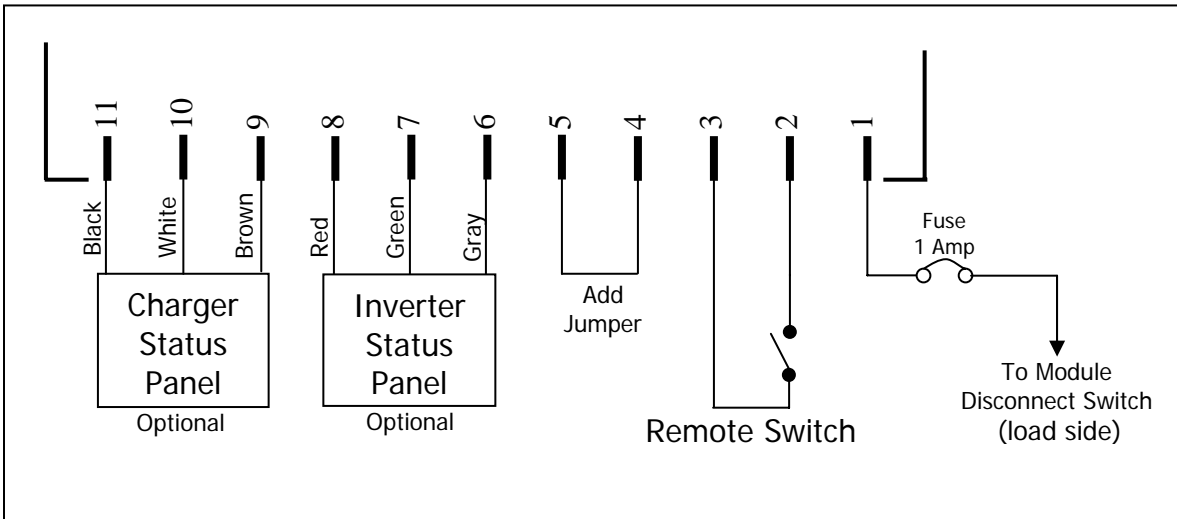
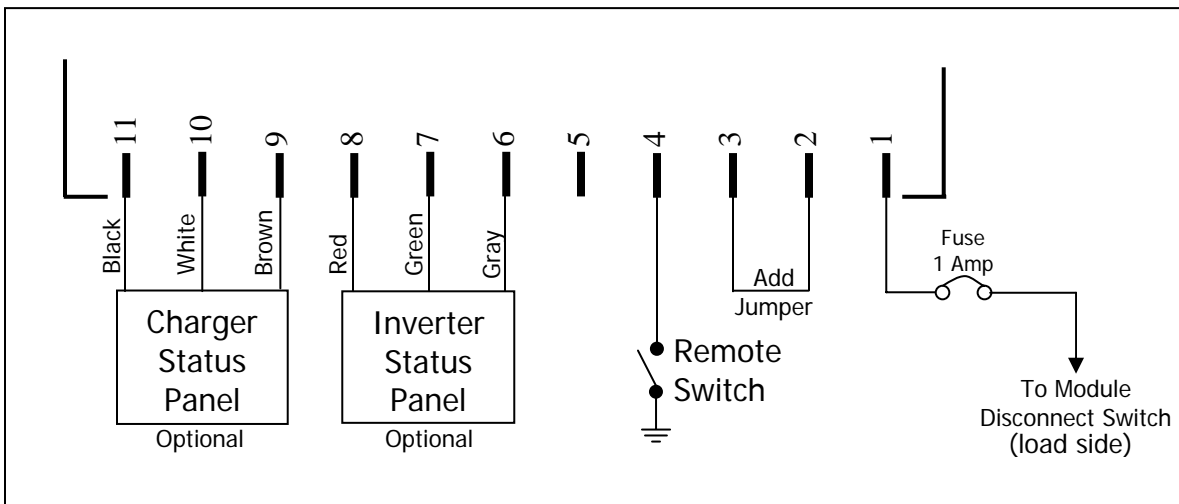

Figure 4: “Positive” start wiring diagram.
Figure 5: “Negative” start wiring diagram.
The SPS can be wired to be turned on by a remote switch. There are two different methods of wiring the remote switch. Figure 4 shows a “positive” start method. Figure 5 shows a “negative” start method.
- Wire the panel as per figure 4 or 5 using insulated butt splice or equivalent. The terminal block on the SPS accepts insulated ¼" quick connect connectors.